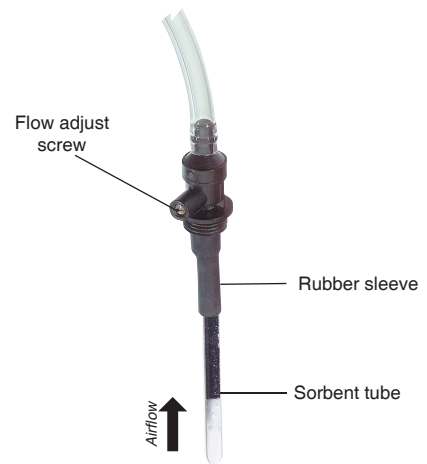

Figure 3. Single Adjustable Tube Holder with Sample Tube
Low Flow Applications (5 to 500 ml/min) Using Single Adjustable Tube Holder (Figure 3)
4. Insert an opened sorbent tube into the rubber sleeve (Figure 3) of the low flow tube holder with the arrow on the tube pointing toward the tube holder.
6. Using flexible tubing, connect the exposed end of the sorbent tube to the calibrator outlet (suction port). Loosen the brass flow adjust screw (Figure 3) on the tube holder. Adjust the flow rate by turning the flow adjust screw (**counterclockwise to increase, clockwise to decrease**) until the calibrator indicates the desired flow. Take a minimum of three readings and record the average flow rate, as per OSHA/NIOSH instructions.